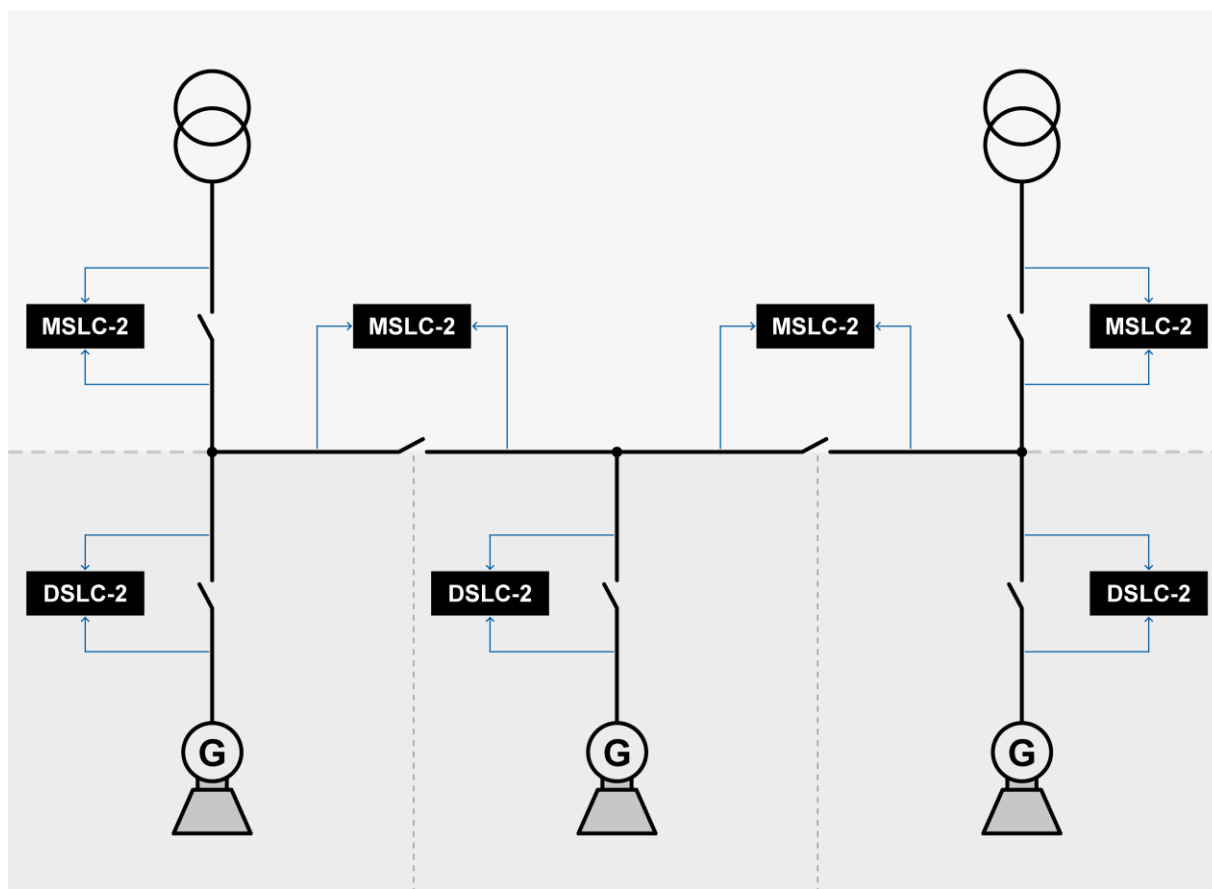

Figure 3-116: Example of an online diagram – step 1
1. Draw an online diagram of your application with all generators, breakers and utility inputs. Then arrange the DSLC-2 and MSLC-2 at the according breaker. Refer to Figure 3-116.